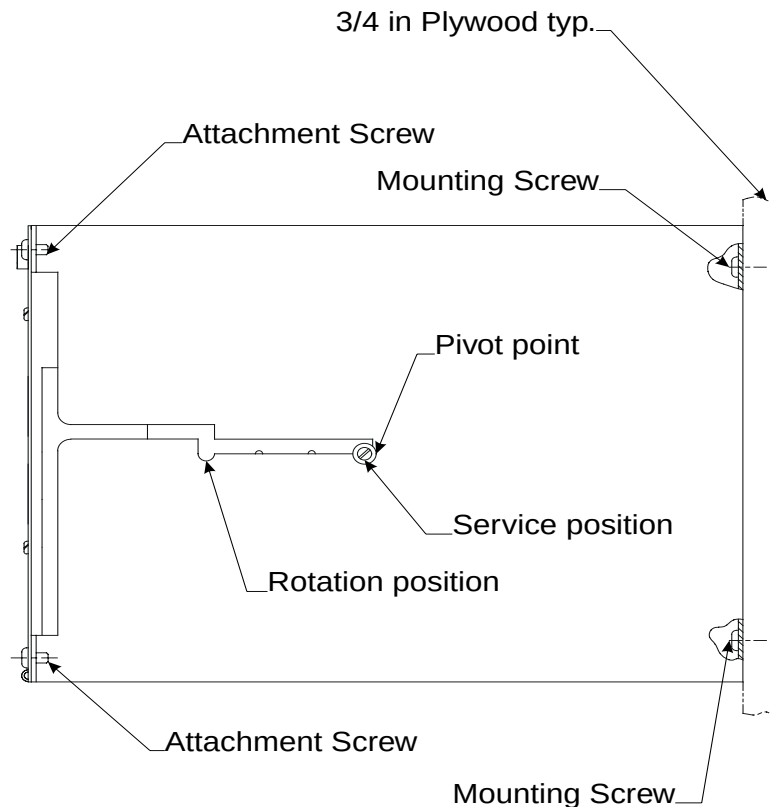

Figure 2 – Wall DT Cabinet — Bottom View
2. With both hands on the bottom of the Wall DT, carefully lift up on the Wall DT so the pivot point leaves the service position, and slide the Wall DT forward until the pivot point reaches the rotation position. Allow the pivot point to drop down into the rotation position, and rotate the Wall DT 90 degrees until the backplane is in the up position (see Figure 2).
3. Carefully rotate the Wall DT 90 degrees until the Wall DT is in the normal position. With both hands on the bottom of the Wall DT, carefully lift up on the Wall DT so the pivot point leaves the rotation position, and slide the Wall DT back until the pivot point reaches the service position. Allow the pivot point to drop down into the service position (see Figure 2).